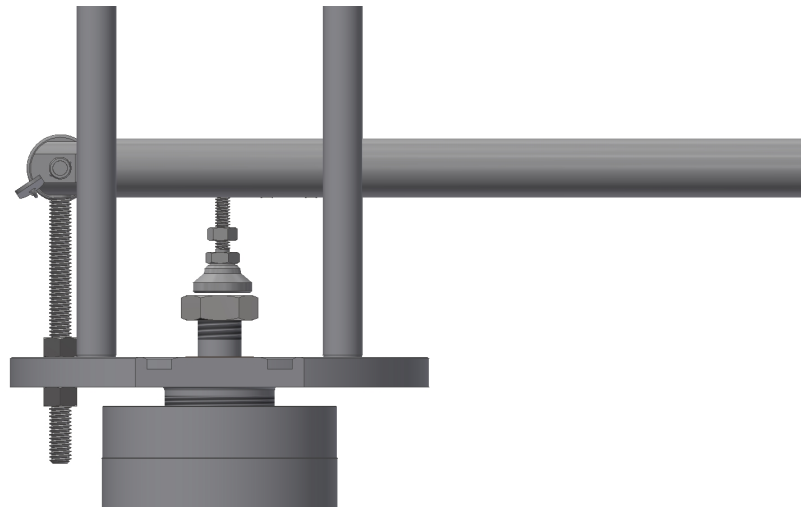

Figure 5: Reseating of EORV
5. Reseat the Plug Stem. Slightly push the plug stem by hand so that the used "buckled" pin can be removed from the pin holders (Item 1 and Item 2). Use the Reset Tool provided with the valve. Bolt the threaded rod of the Reset Tool to the Bonnet hole and reseat the plug using Leveling Mount as shown in the Figure 5 below. If excessive force is being experienced, then the reseating procedure should be stopped, and supervisory services of BS&B Pressure Safety Management, L.L.C. shall be contacted for assistance.